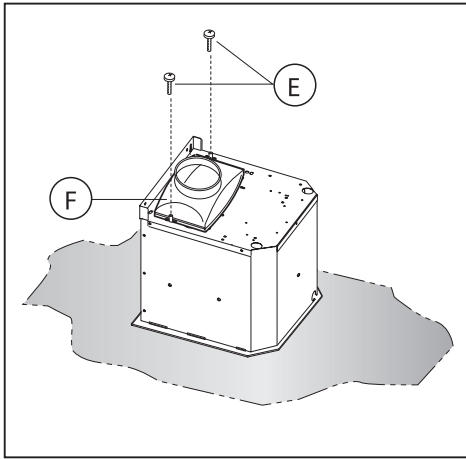

Fig.9
- If your product is fitted with a connector flange, perform the assembly steps indicated in fig. 9 before fixing the cooker hood to the structure. Take connector flange **F** and fit it to the upper part of the cooker hood suction assembly using the 2 screws **E** (Fig.9).